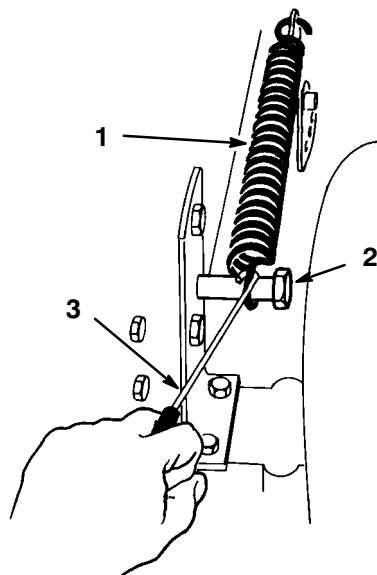

Figure 6
6. Remove the lift assist spring between the mower right side lift bracket and the retaining bolt (Fig. 6) Use the spring tool provided with the machine.